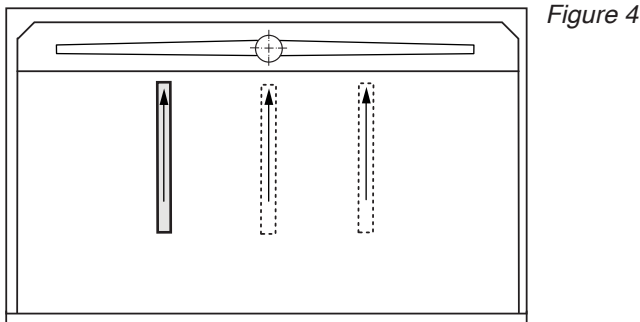

Figure 4
- 3** Place a level as shown in Figure 4 and verify that there is slope towards the drain.